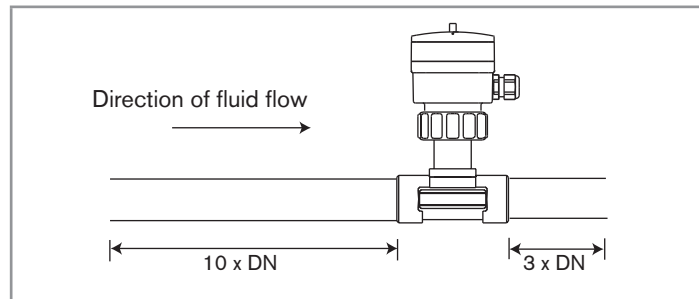
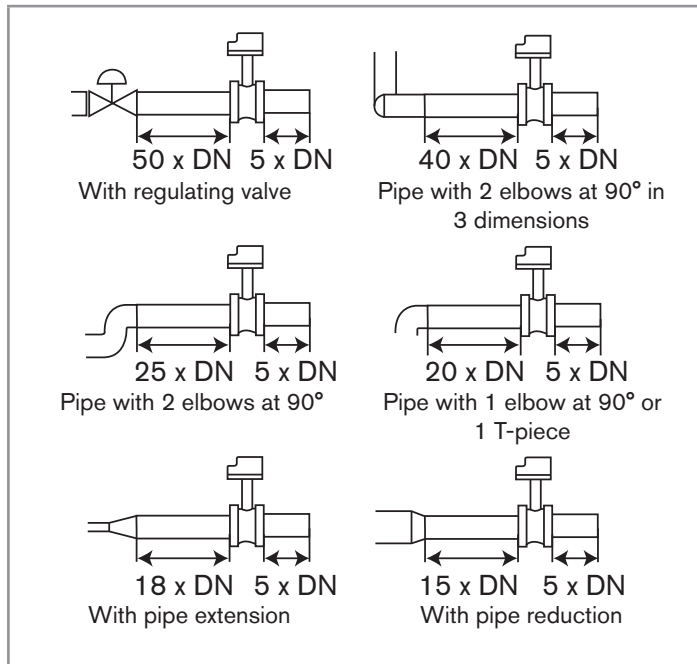

Fig. 7.3: Minimum distances upstream and downstream
Fig. 7.4: Distances upstream and downstream depending on the design of the pipes.
→ For measuring the flow, install the fitting on the pipe in such a way that the minimum distances upstream ($10 \times DN$) and downstream ($3 \times DN$) are respected, as shown in fig. 7.3.
- For measuring the flow and depending on the design of the pipes, the distances recommended in figure 7.3 may be increased in accordance with the standard EN ISO 5167-1, from which the diagrams in fig. 7.4 are excerpted: